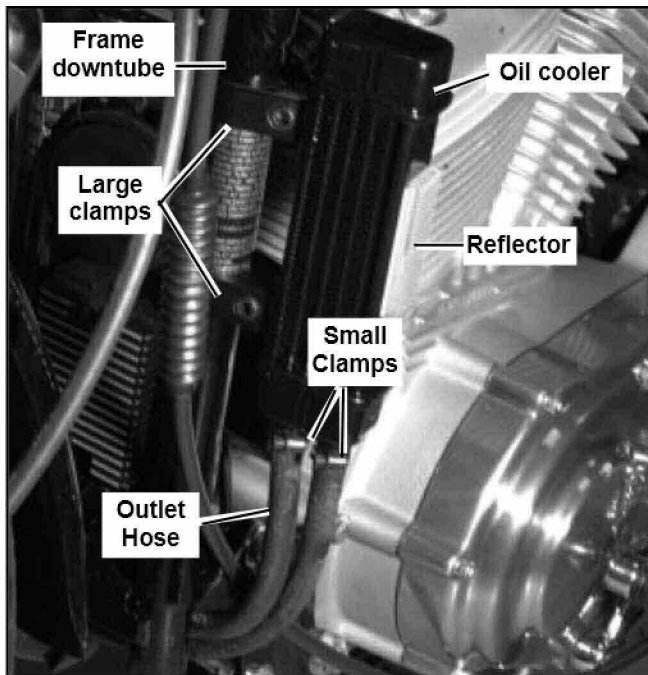

Figure 3. Oil Cooler Mounting (Typical)
3. See Figures 3 and 4. Connect 9 in. hose to oil filter inlet fitting and outlet fitting on oil cooler. Secure with clamps from kit.
3. See Figures 3 and 6. Connect 14 in. inlet hose to oil cooler inlet fitting. Route hose down and back between front engine mounts and connect to oil pump return fitting. Secure connections with small clamps from kit.